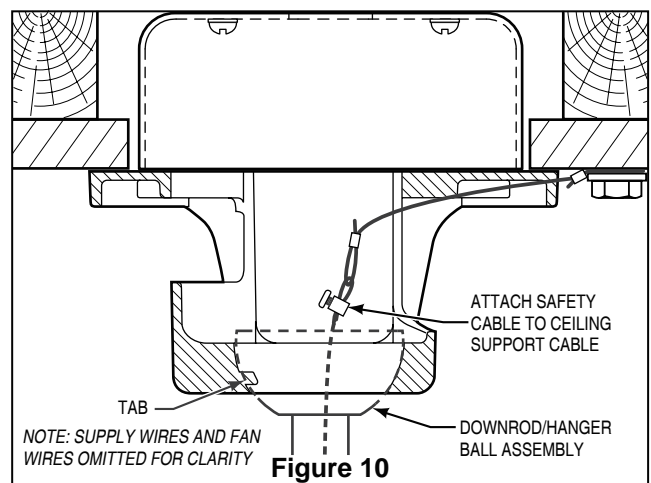

Figure 10
4. Carefully lift the fan and seat the downrod/hanger ball assembly on the hanger bracket that was just attached to the outlet box. Be sure the groove in the ball is lined up with tab on the hanger bracket (Figure 10)
5. Attach the safety cable to ceiling support cable. Slide cable clamp onto safety cable (from fan). Place the end of cable through the loop of ceiling support cable. Pull as much cable through loop as possible. Feed end of cable into clamp hole and firmly tighten screw (Figure 10).